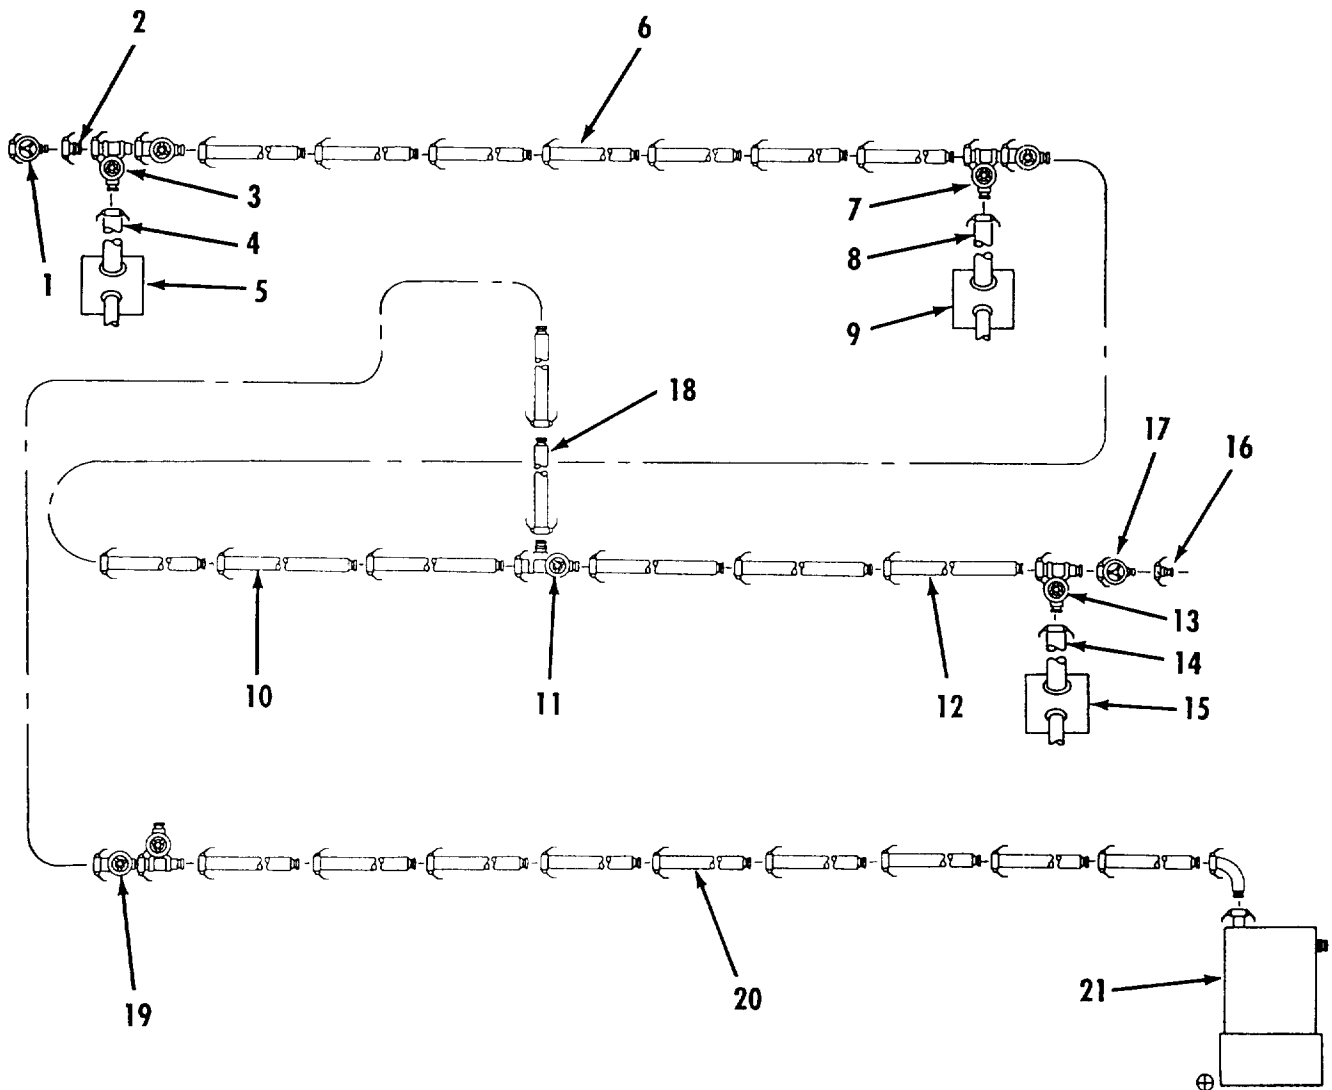

Figure 2-16. Fuel System - Fuel Tank Discharge to Secondary 600 GPM Pump Input.
- h. Fuel System Fuel Tank Discharge to Secondary 600 GPM Pump Input. Refer to figure 2-16.